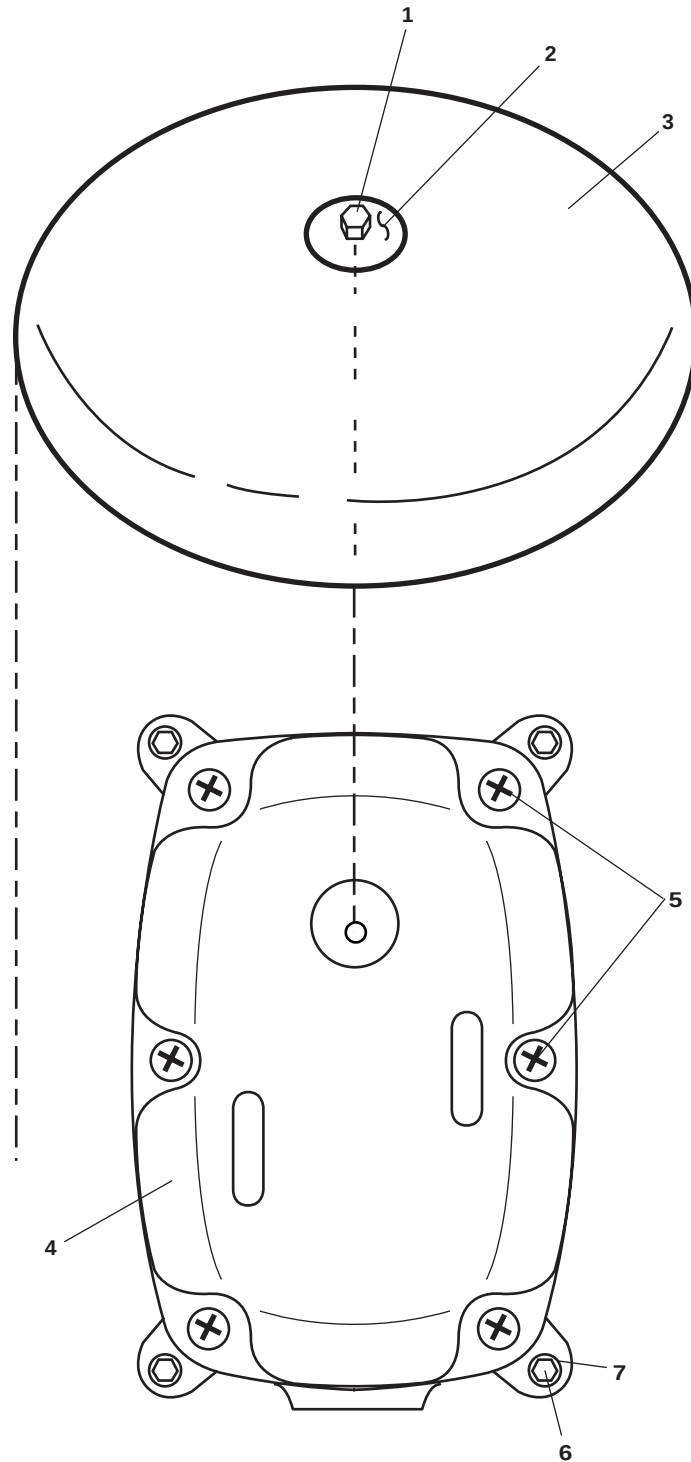
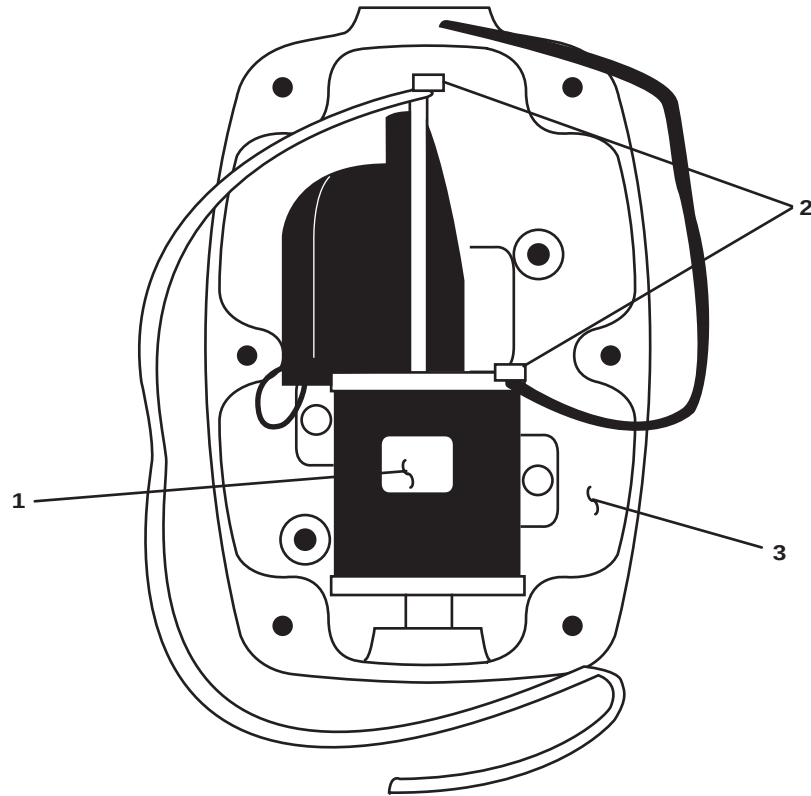

Figure 1. General Alarm Bell Assembly
Figure 2. Contactor Switch Assembly
1. Remove the bolt (figure 1, item 1) and washer (figure 1, item 2) that secure the gong (figure 1, item 3) to the bell actuator assembly cover (figure 1, item 4). Remove the gong from the bell actuator assembly cover.
2. Remove the six retaining screws (figure 1, item 5) that secure the bell actuator assembly cover (figure 1, item 4). Remove the bell actuator assembly cover from the bell actuator assembly.
3. Turn the bell actuator assembly cover (figure 1, item 4) over to reveal the internal electrical components (figure 2, item 1).
4. Use a multimeter to check for voltage at the terminals (figure 2, item 2). If voltage is present, ensure that the proper circuit breaker is set to OFF, locked out, and tagged out (FM 55-502). If no voltage is present, continue with the procedure.
5. Label and remove the wiring from the terminals (figure 2, item 2) of the bell actuator assembly cover (figure 1, item 4).
7. Remove the four bolts (figure 1, item 6) and four washers (figure 1, item 7) that secure the bell actuator assembly to the bulkhead. Remove the bell actuator assembly from the bulkhead.
1. Install the bell actuator assembly to the bulkhead, securing it in place with the four bolts (figure 1, item 6) and four washers (figure 1, item 7).
3. Install the bell actuator assembly cover (figure 1, item 4), securing it to the bell actuator assembly with the six retaining screws (figure 1, item 5).
4. Install the gong (figure 1, item 3) on the bell actuator assembly cover (figure 1, item 4), securing it with the bolt (figure 1, item 1) and flat washer (figure 1, item 2).